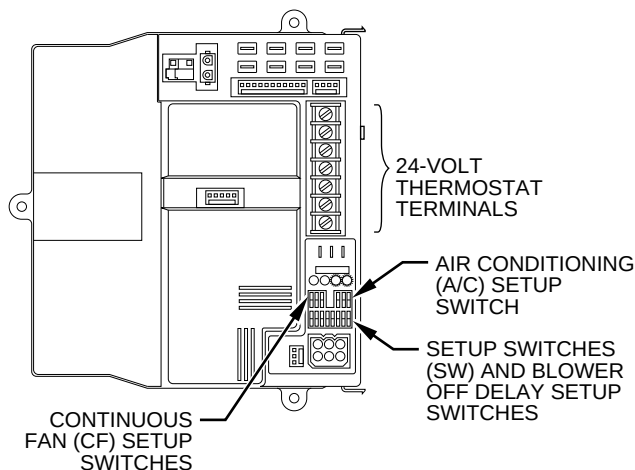

Fig. 11—Condensing Furnace Control Center
5. Jumper R and W2 thermostat connections on control. (See Fig. 11.) This keeps furnace locked in high-heat operation.
- b. Turn setup switch SW-2 on control center to ON position. (See Fig. 11.) This keeps furnace locked in low-heat operation.